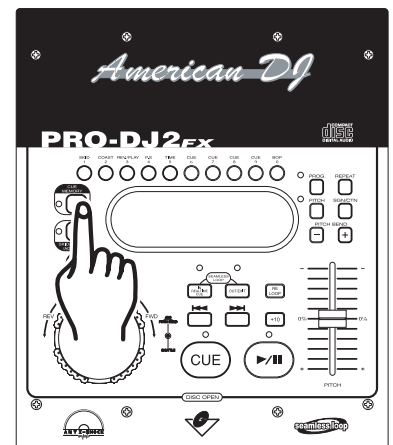

Figure 20
- 1) Create a cue point, press the *CUE MEMORY BUTTON (10)*, as in Figure 20. The yellow Cue Memory LED will glow. This indicates a cue point is ready to be stored in to memory.